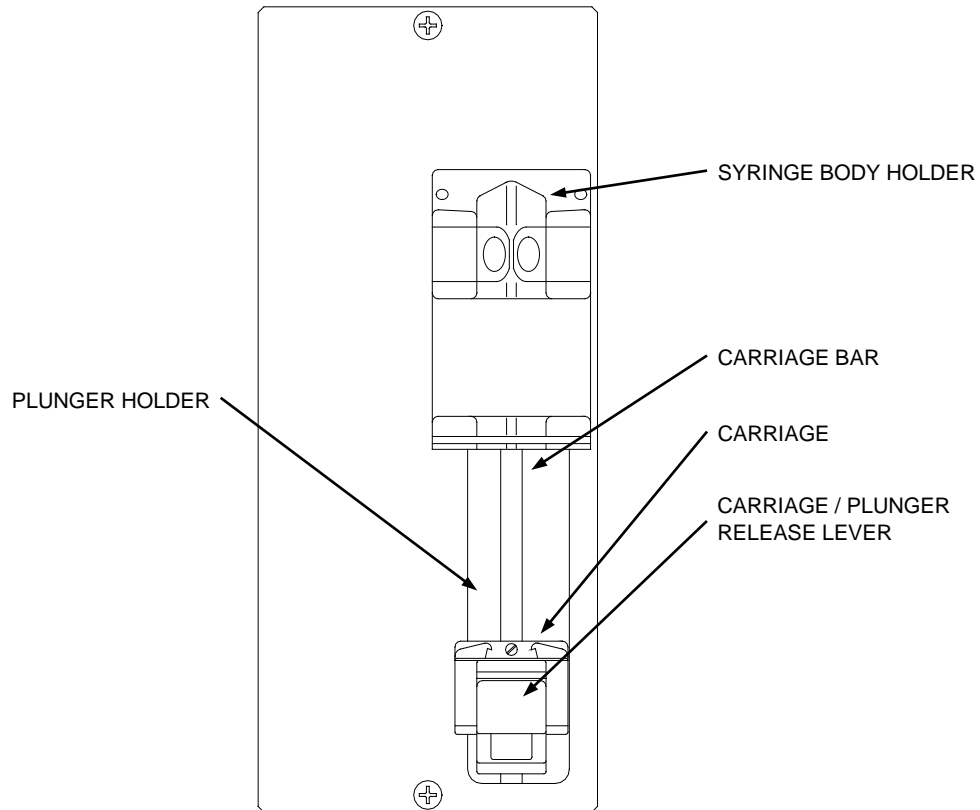

Figure 6 Heparin Pump Module
7. Squeeze the carriage/plunger release lever and slide the carriage all the way down so the carriage bar is accessible (see Figure 6).